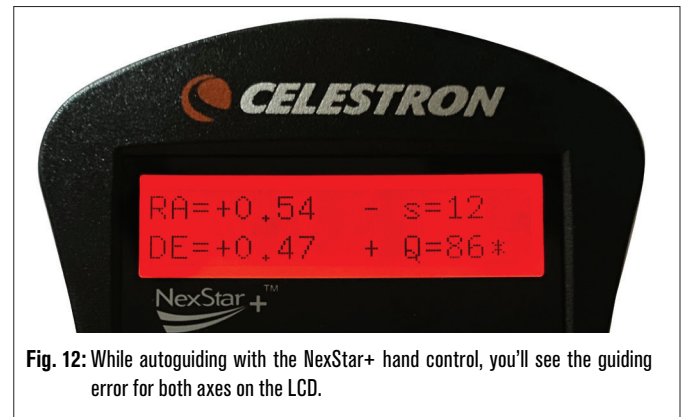

Fig. 12: While autoguiding with the NexStar+ hand control, you'll see the guiding error for both axes on the LCD.
The hand control's LCD will display a screen like Fig. 12. The numbers on the top line represent the right ascension (RA) RMS tracking error, and the numbers on the bottom line represent the declination (Dec) RMS tracking error in arcseconds. The +/- symbols to the right of the RA and Dec RMS tracking errors indicate the direction of the previous tracking command on that axis. The "s" number is the number of stars SSAG is using for guiding. The "Q" number represents the quality of the guiding, which is essentially a measurement of the local seeing conditions—zero is poor while 100 is ideal. The blinking asterisk next to the Q number indicates that the hand control is receiving guiding commands from SSAG.